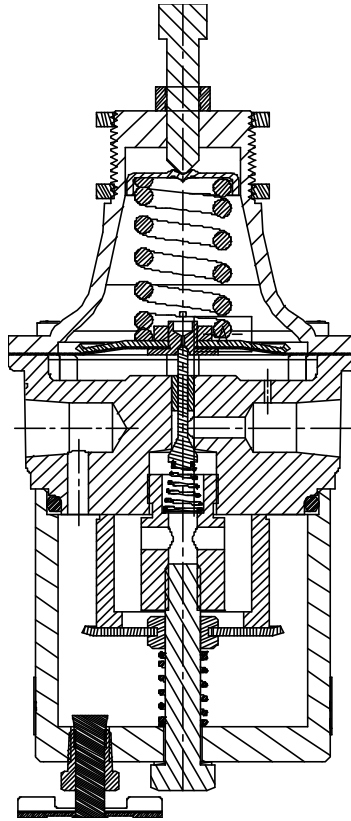

FIGURE 2 – Cross Section of GFH45 Regulator
6. For 125 psi output units, remove the restricting plate (note: the 0-60 psi model is shown in figure 2 and does not have this restricting plate).